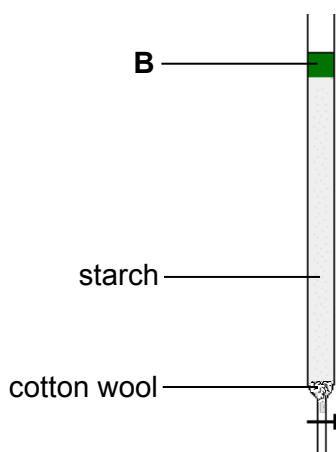

Fig. 6.2
- (b) Pigment **B** was added to the top of the column and allowed to soak as shown in Fig. 6.2.